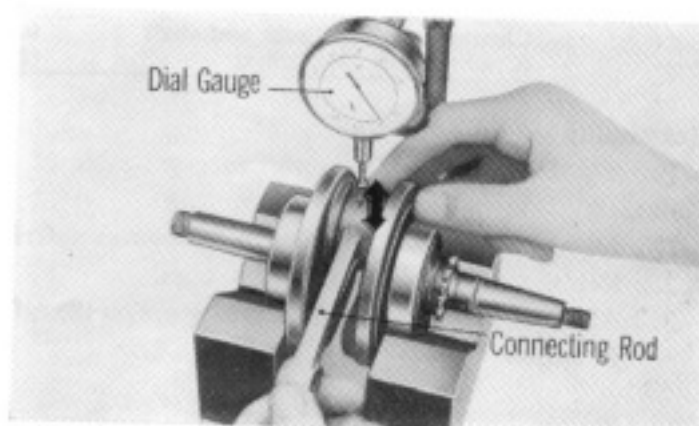

Fig. 44
3. Measuring the radial clearance of the connecting rod large end bearing. Measure the amount of clearance at the connecting rod large end by using a dial gauge (Fig. 44).